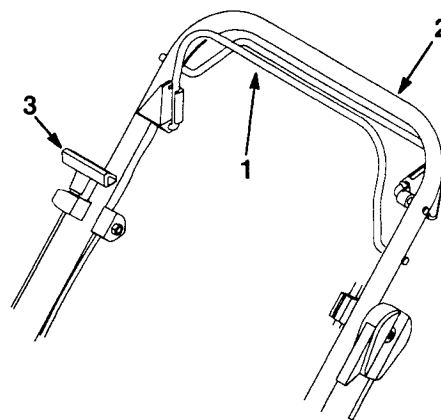

Figure 35
11. Hold blade control bail against upper handle (Fig. 35) and pull starter rope several times to blow out loose carbon.